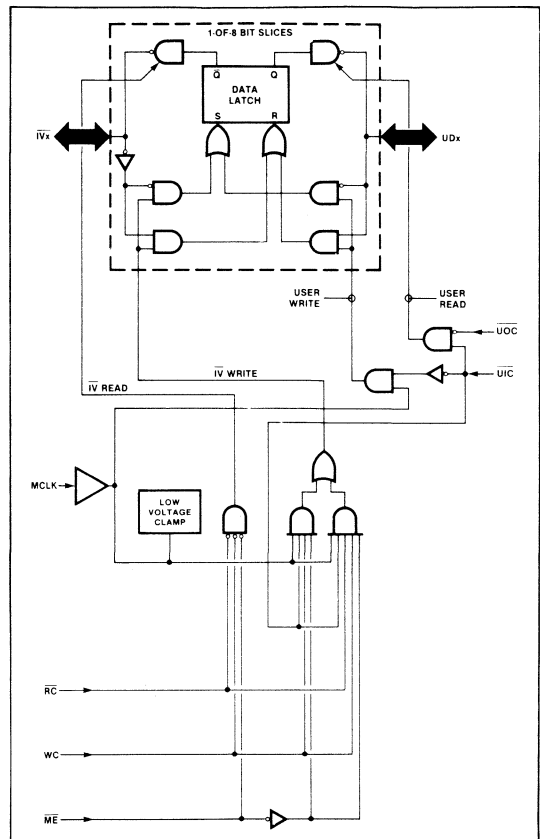

Figure 1. Logic Diagram for 8X371 I/O Port
compatible busses. Typically, the 8X371 is used with the 8X305 MicroController and its associated Interface Vector (IV) bus; however, it can also be used with the 8X300 MicroController or an equivalent microprocessor. The 8X371 is functionally the same and pin-for-pin compatible with the older 8T31/8X31 but features improved performance and increased drive current. As shown in the logic diagram of Figure 1, the 8X371 consists of eight identical data latches—bits 0 through 7. The latches are accessed from either of two 8-bit busses—the MicroController (IV bus) and the user data (UD bus). Separate controls are provided for each bus and both busses operate independently, except when both attempt to input data at the same time; in such situations, the user bus always has priority. A Master Enable (ME) input is available for additional control over the IV bus. The data latches are transparent, in that, while either bus is enabled for input, all input-data transitions are propagated to the other bus, if enabled for output.